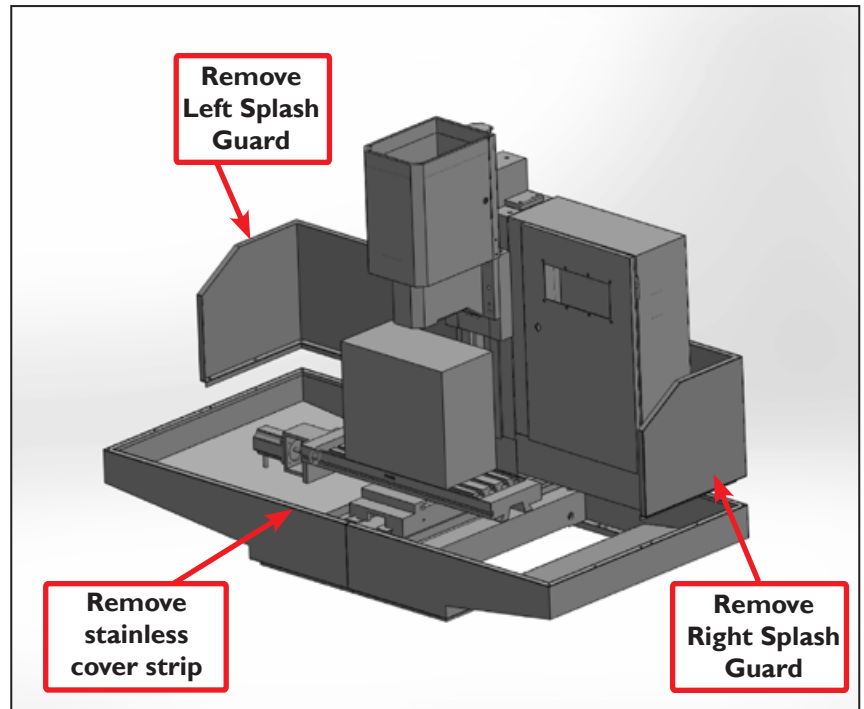

Figure 1
1. In preparation for enclosure installation, remove the stainless steel cover strip along front of the machine stand (see **Figure 1**).
2. Remove the side/rear splash guards from both sides of chip pan (see **Figure 1**).